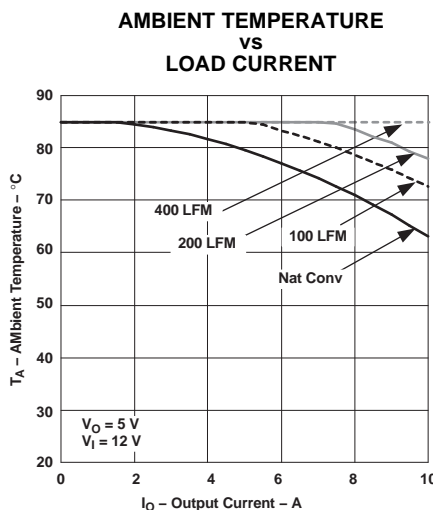
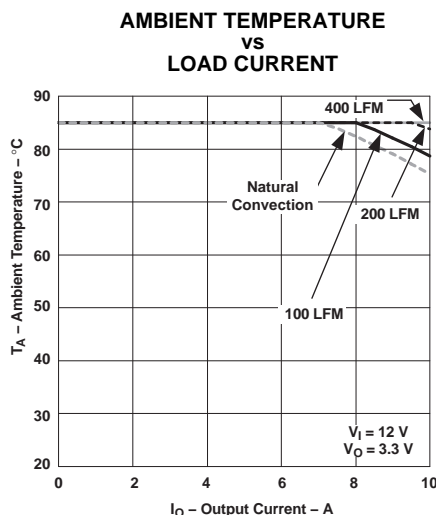
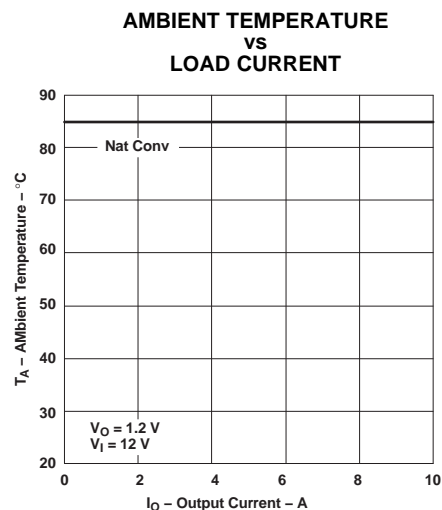

Figure 4. Safe Operating Area
Figure 5. Safe Operating Area
Figure 6. Safe Operating Area
- (2) The temperature derating curves represent the conditions at which internal components are at or below the manufacturer's maximum operating temperatures. Derating limits apply to modules soldered directly to a 100 mm x 100 mm double-sided PCB with 2 oz. copper. For surface mount packages (AS and AZ suffix), multiple vias must be utilized. Please refer to the mechanical specification for more information. Applies to Figure 4, Figure 5, and Figure 6.